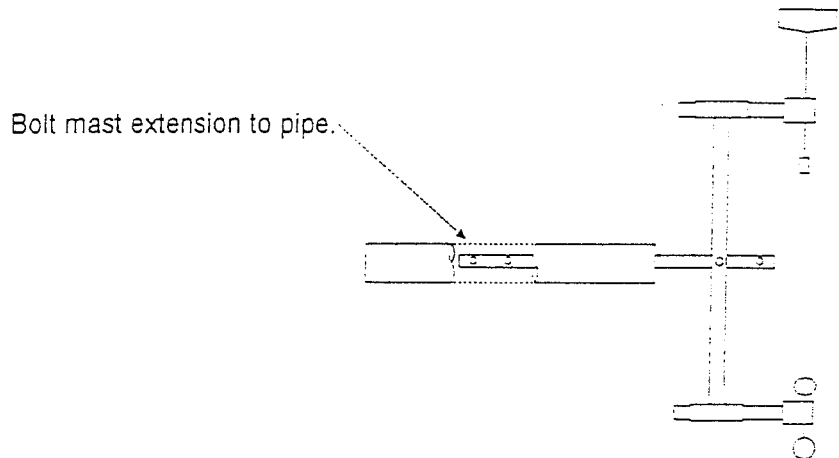

Figure 5-6
1. Use a pipe extension assembly similar to the one described in the section on tower top mounting. Although it is not critical, in this case the pipe can be shorter than 30 inches and the mast extension mounting holes can be closer to the middle of the pipe than the top. See Figure 5-6.